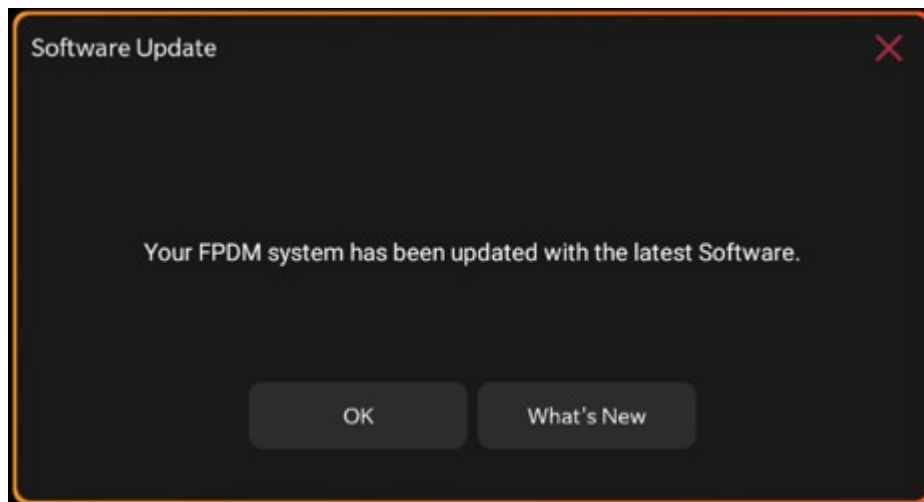

Fig. 9
17. When the update is complete, you will see the following popup. Press OK of What's New. Then the system is ready to use (Fig. 9) .